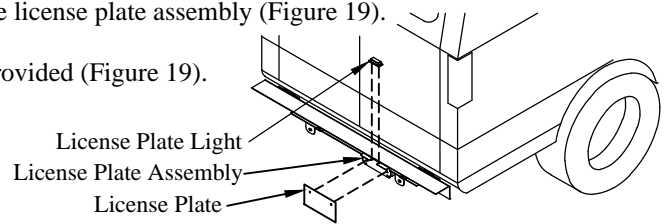

Figure 19: License plate & light location.
1. **Install** the two (2) square plastic insert nuts into the square holes on the license plate assembly (Figure 19).
2. **Install** the license plate using the two (2) 1/4-20 self-tapping screws provided (Figure 19).
3. **Install** the license plate light into the holes provided (Figure 19).